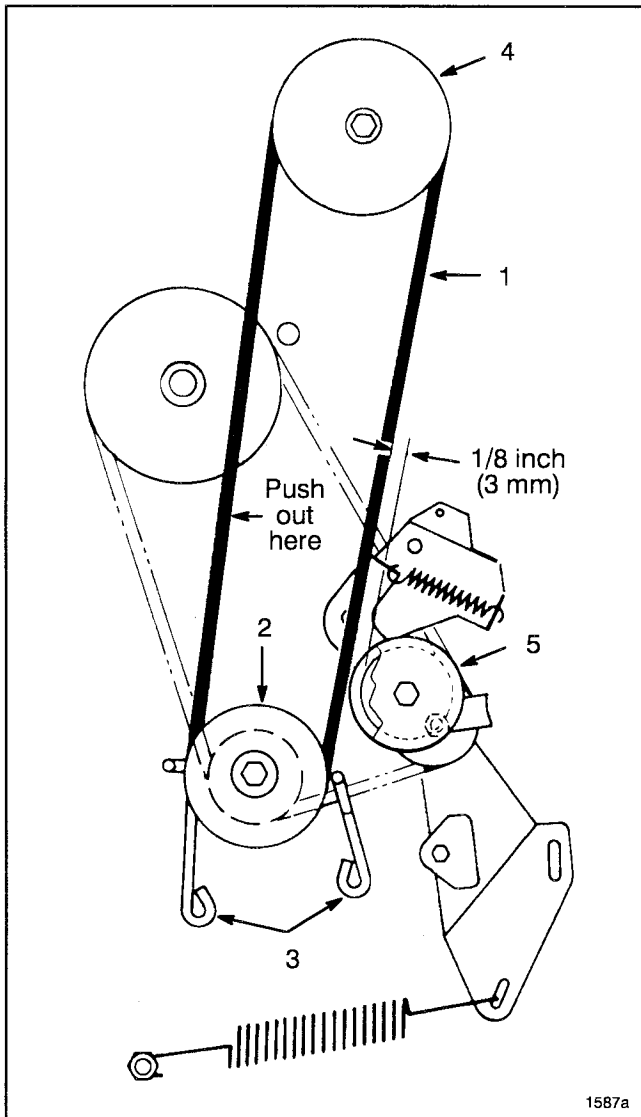

Figure 18
7. Loosen capscrews securing (2) engine pulley belt guides and move guides away from pulley. Remove deck drive belt from engine pulley (Fig. 18).
9. Remove (2) screws securing belt guide to mower housing and remove belt guide. Remove belt from pulley.
12. Pushing out on belt (removing slack), as shown in fig. 18, check clearance between outside of belt and inside of idler pulley (Fig. 18). Clearance should be approximately 1/8 inch (3mm).